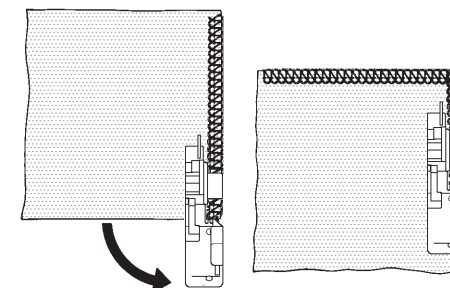

Fig. 1
3. Turn the fabric, lower the presser foot and begin stitching in the new direction. Fig. 1.
1. Snap the detachable cord guide, in your accessory set onto the thread guide pole (Fig. 1).
2. Place a filler cord, such as a crochet cotton, gimp, wool, knitting yarn, or shirring elastic at the rear of the machine spool pin. Pass the cord through the cord guides (1) and (2) and then through the left needle thread guide (3). See Fig. 1.